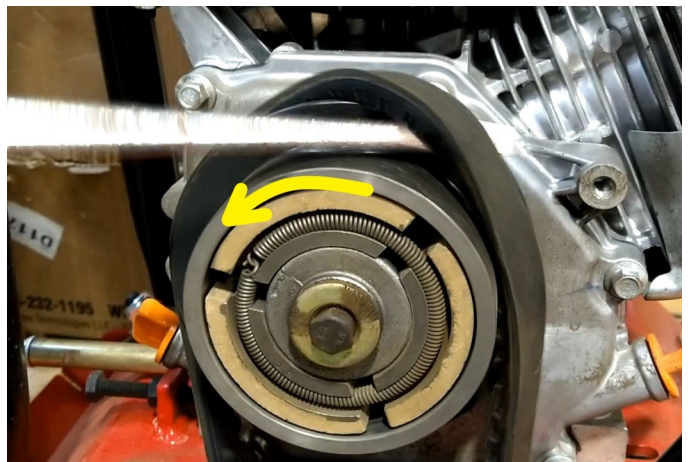

*Fig. 3: Clutch and belt.*
3. Remove the belt cover. The clutch and belt are now exposed (Fig. 3).